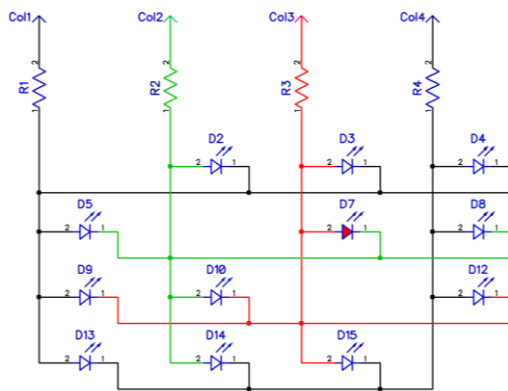

Figure 48 – Four-line Charlieplexed matrix
If the diagonal LEDs are removed, and at these intersections, the rows are connected to the columns, the row inputs will no longer be needed and can be removed. The result is seen in Figure 48, where 12 LEDs are connected to four I/O lines. This is Charlieplexing.
With a given number of I/O lines (N), how can the number of LEDs that can be controlled be calculated? Figure 48, gives a visual representation of the answer. The number of LEDs that can be Charlieplexed are N (number of rows) times N (number of columns) minus N (number of diagonal LEDs removed). For this example, the number of LEDs four I/O pins can control can be calculated: